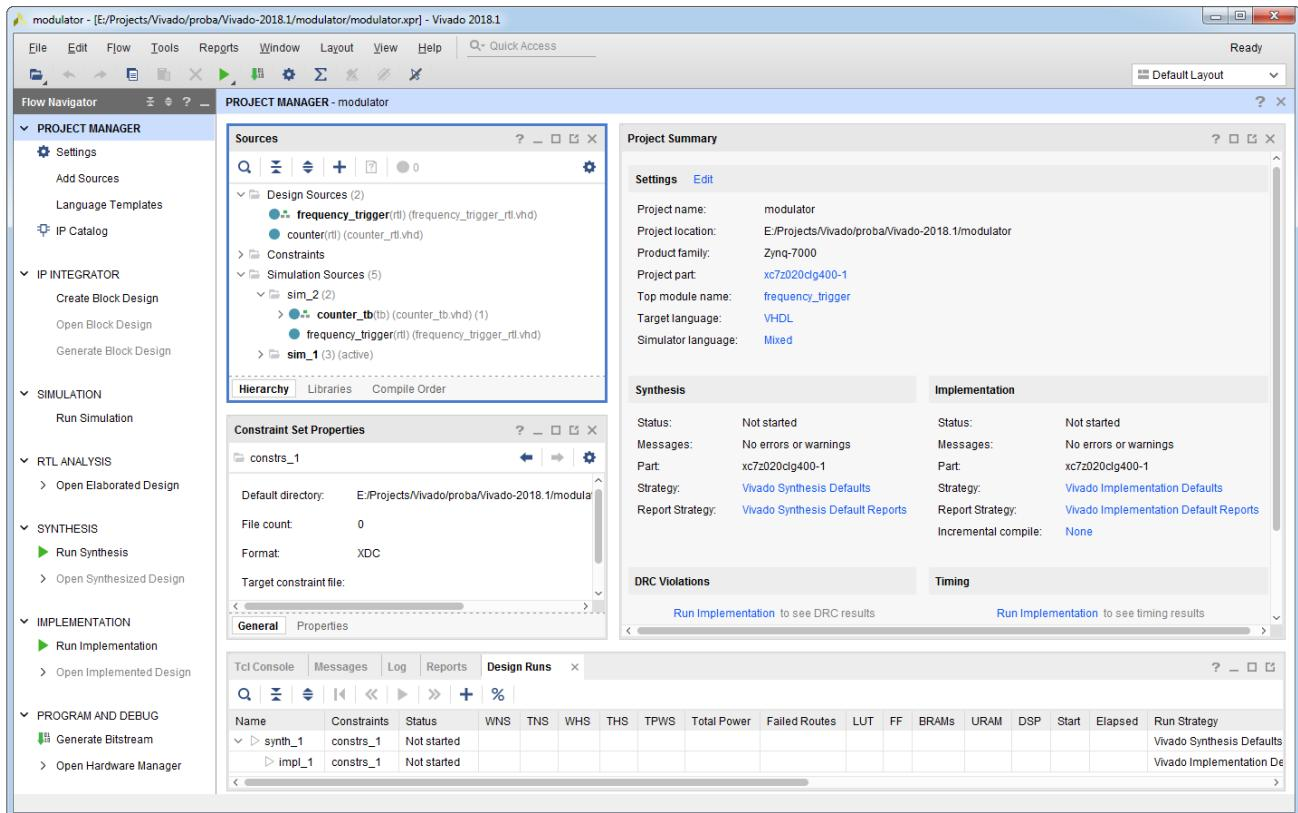

Figure 3.4: Vivado IDE Viewing Environment with created new simulation set
7. Click **Finish** and your test bench file should appear under the **Simulation Sources / sim_2** in the **Sources** view, in the **Project Manager** window, see Figure 3.4.